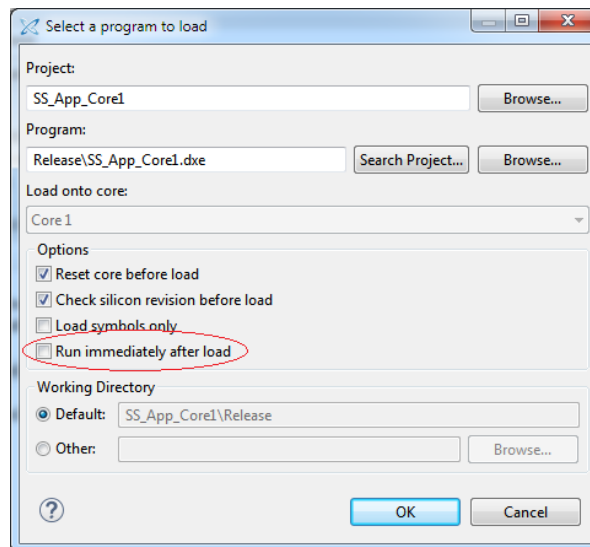

Figure 29: Select a program to load window
14. Double click on 'SS_App_Core1.dxe' of Core 1 and uncheck 'Run immediately after load' option as shown in the Figure 29. Repeat the same for 'SS_App_Core2.dxe' for Core 2.